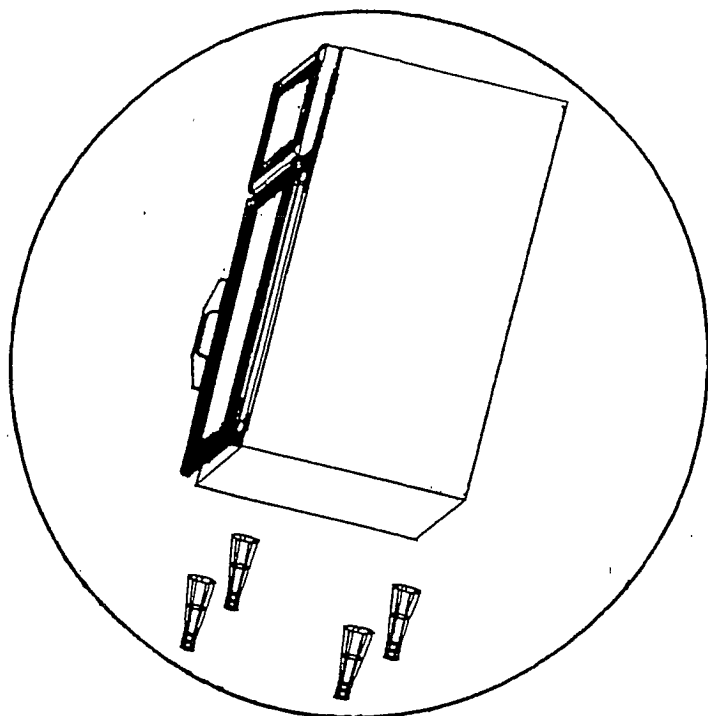

Fig. 1
To install legs, tip or raise the cabinet one side at a time and remove skid base by removing (2) 5/16-18 hex head bolts. Screw-on legs mount directly into 5/16-18 weld nut provided in each corner at the bottom. (See Fig. 1)